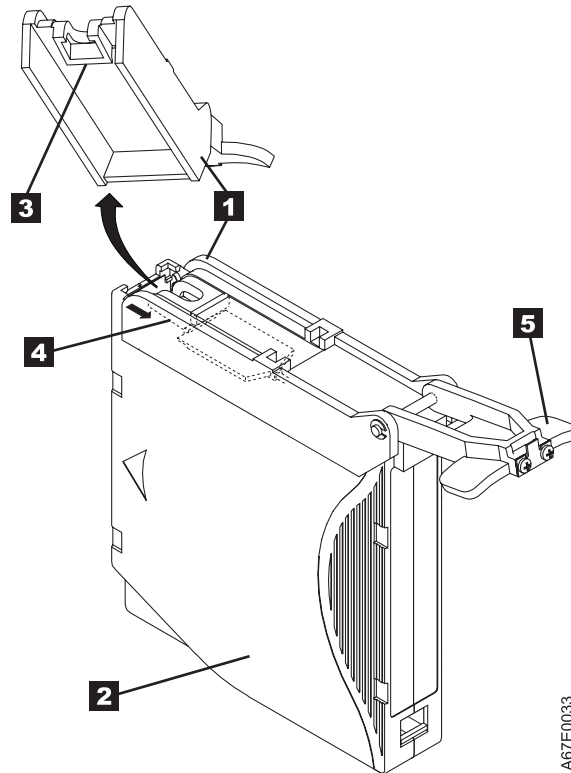

Figure 75. Attaching the leader pin attach tool to the cartridge. To hold the cartridge door open, hook the tool into the door and pull the tool back.
1. Attach the leader pin attach tool (**1** in Figure 75) to the cartridge (**2**) so that the tool's hook (**3**) latches into the cartridge's door (**4**). Pull the tool back to hold the door open, then slide the tool onto the cartridge. Open the tool's pivot arm (**5**).